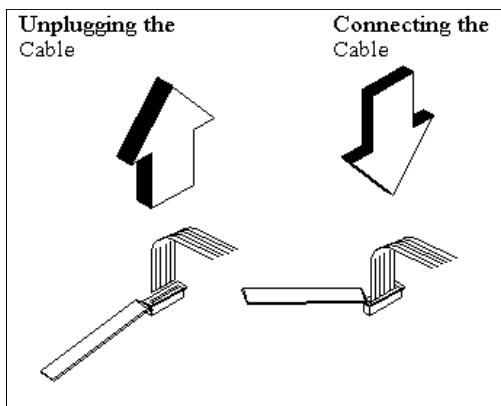

Figure 6-1 *Removing/Installing Cables with Locking-Type Connectors*
- Locking-type connectors - use a plastic stick to unlock and lock these type of connectors as shown in Figure 6-1.